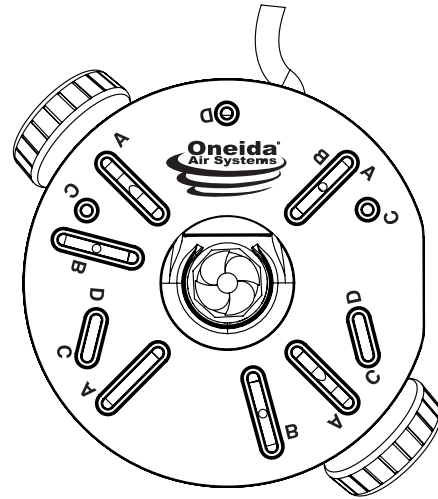

Fig. 3
4. Rotate the base plates so the holes or slots align with the screw holes of the router. Letters on the base plate indicate separate screw hole patterns (Fig. 3).